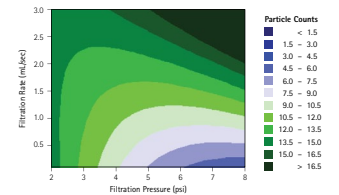

Fig. 4. Contour plot of particle performance using current filtration method
- ▶ After the first 3 nm asy UPE had achieved baseline using the current method with a filtration rate of 0.5 mL/sec and a filtration pressure of 4 psi, a matrix of experiments were performed that changed filtration conditions in a range from 2 to 8 psi and 0.1 to 3 mL/sec. Thirty dispenses were performed at each condition, and downstream particle were measured. The contour plots in Fig. 4 - 5 are based upon the last 20 of each set of 30 dispenses at each condition. The particle data was analyzed using Minitab® with an unique data processing.